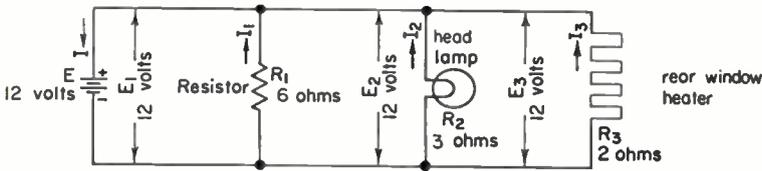

Fig. 2
3. In the circuit in Fig. 2, the same battery voltage E is applied across three circuit elements: a resistor, a lamp, and a heater. I is the total current supplied by the battery; I_1 is the current flowing through the resistor R_1 ; I_2 is the current flowing through the lamp R_2 ; and I_3 is the current flowing through the heater R_3 . If $E = 12$ volts, $R_1 = 6$ ohms, $R_2 = 3$ ohms, and $R_3 = 2$ ohms,